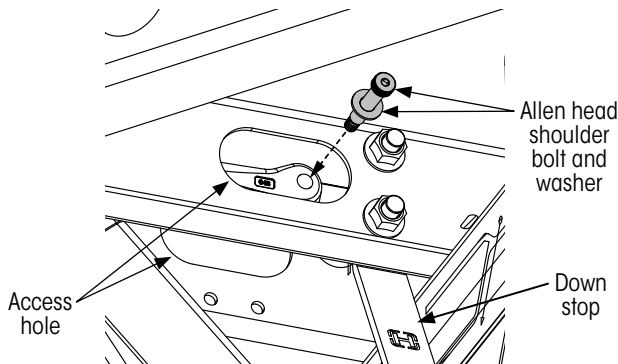
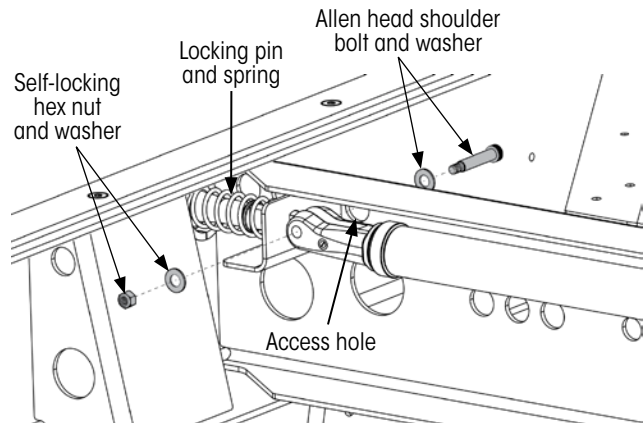

Figure 5: ULTRAA-K® front linear actuator aftermarket connection
Figure 6: VANTRAA® aftermarket actuator/locking pin assembly
On ULTRAA-K sliders, the front fasteners **must be installed with the shoulder bolt through the crossmember** as shown in Figure 5 to avoid contact with the down-stop fasteners.
3. (ULTRAA-K® front linear actuator only) **Press and hold** locking pin in place to expose the original fastener through the access hole (Figure 5) during installation of the new fastener.
5. **Align** holes (Figure 2 on page 5, Figure 3 on page 5, Figure 5 or Figure 6) and **insert** the fastener through the liner actuator end and locking pin at each end.
- A. If using Allen head shoulder bolt and washers included with the aftermarket QUIK-DRAW service hardware kit (**recommended**), **install** washer and self-locking hex nut (Figure 6) on bolt at each end of the linear actuator and tighten.